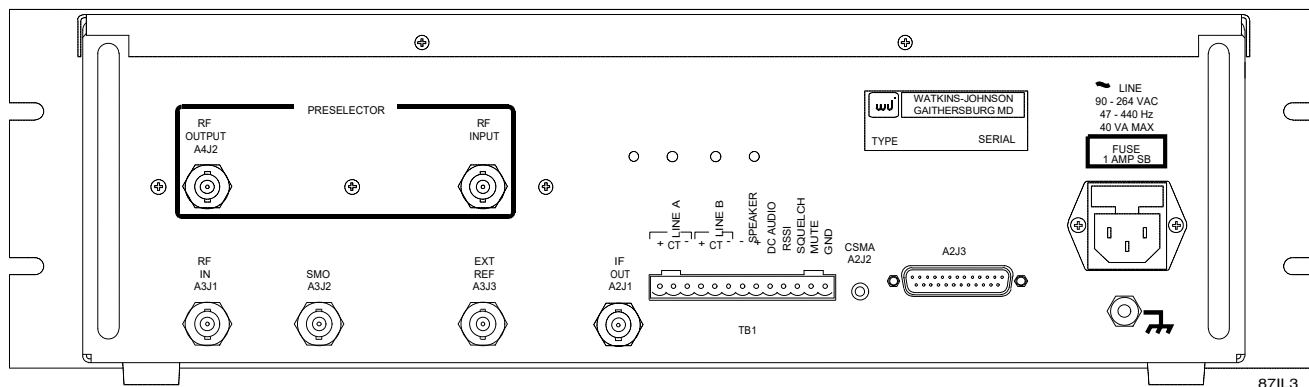

Figure 2-3. WJ-8711A Rear Panel
A 1 amp, slo-blo fuse (FL1F1) is provided and located in a fuse case on the rear panel of the receiver (see **Figure 2-3**). This type fuse is to be used for operation anywhere in the VAC range.
All external connectors of the WJ-8711A are located on the rear panel, with the exception of the PHONES jack which is located on the front panel. **Table 2-1** lists these connectors and provides a brief description and the reference designation for each. **Figure 2-3** shows the location of the rear panel connectors. The following paragraphs provide details of the signals resident at the connectors.
2.2.4.10 **Ground Stud** - A #10 threaded grounding stud is located on the rear panel for grounding the receiver in an equipment frame. See **Figure 2-3** for the location of this grounding stud.